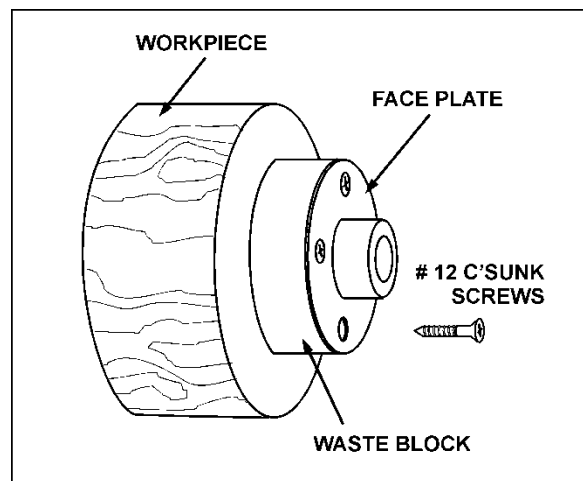

Figure 10-9
5. Make a block the same diameter as the face plate, Figure 10-9. Both waste block and workpiece should have flat surfaces for gluing.